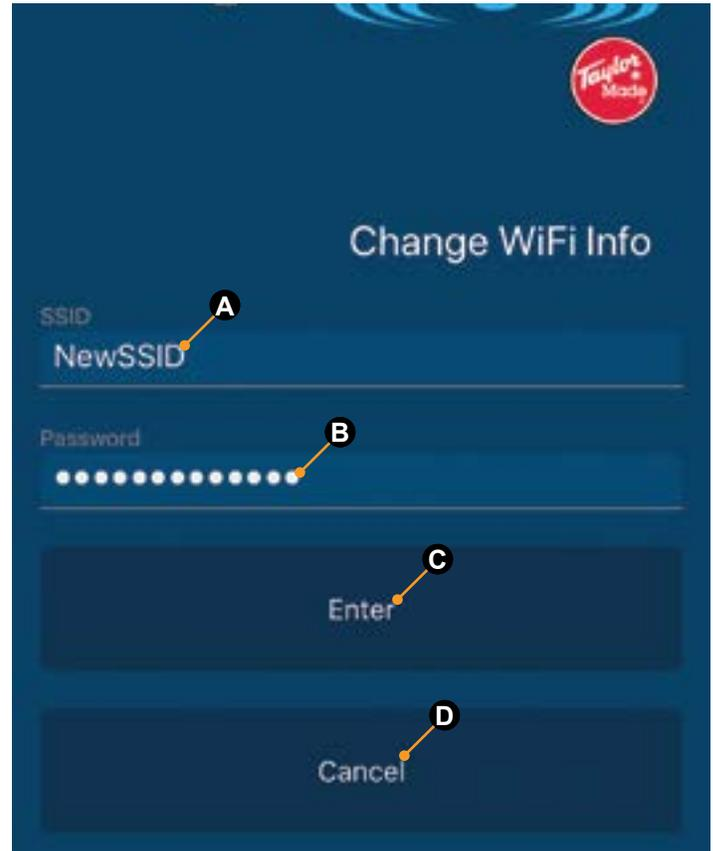

Fig.16
2. To change the WiFi SSID name, tap the right bracket (➤) to display the Change WiFi Info screen (Fig.16).